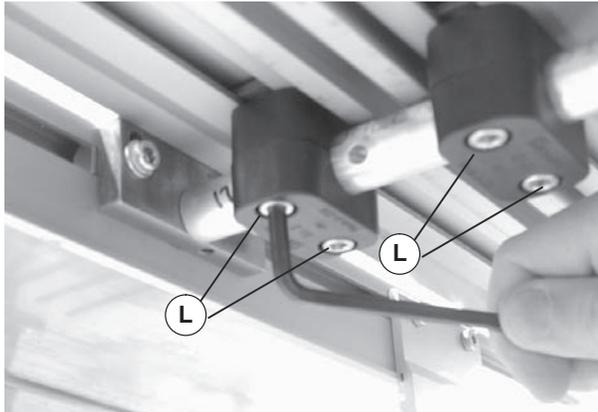

Figure 11
10. Adjust horizontal position of table. Tighten clamp screws (Figure 11, item L).